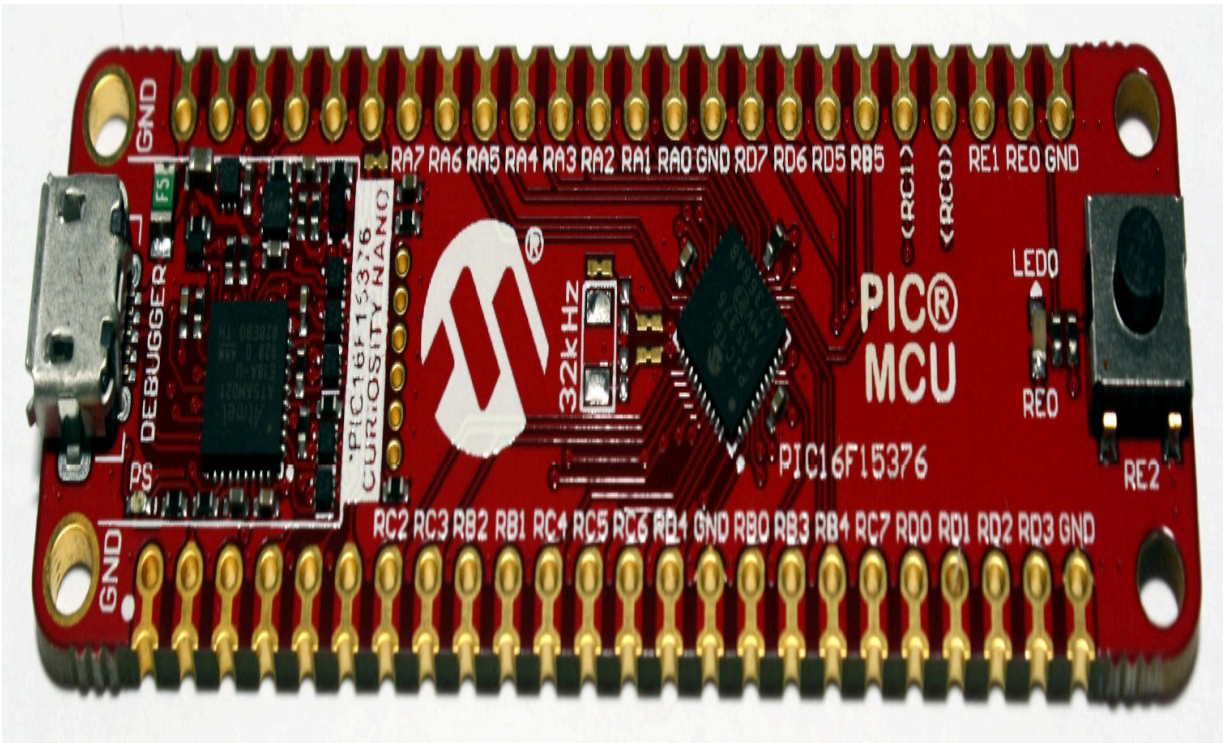

Figure 1.6 – The Curiosity Nano microcontroller board
*Figure 1.6* is a closeup of the Curiosity Nano microcontroller board. Notice its PIC16F15376 microcontroller chip shown at the center: